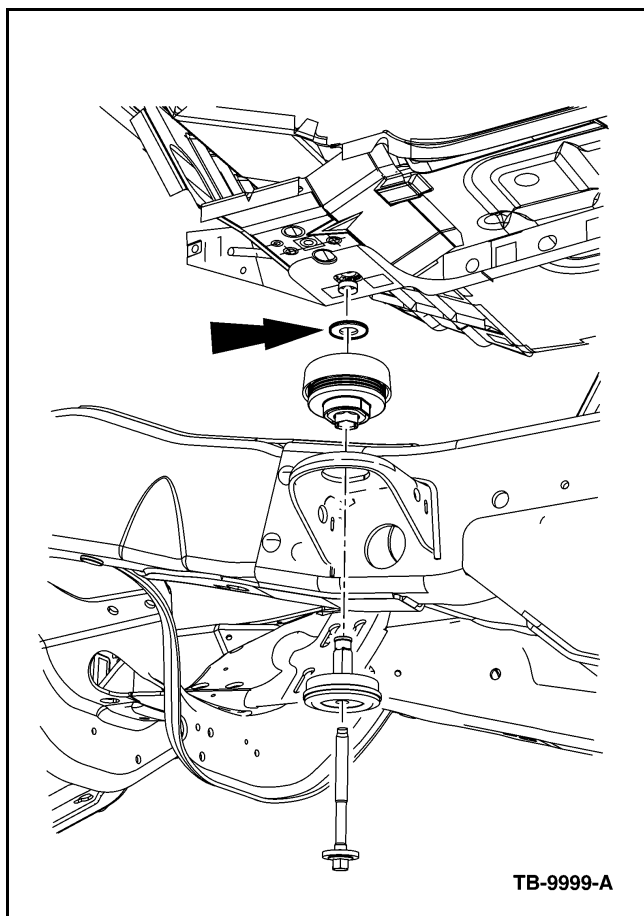

Figure 1 - Article 13-6-7
9. Install a shim between the floor pan and number 1 upper body support mount that exhibits the noise. (Figure 1)